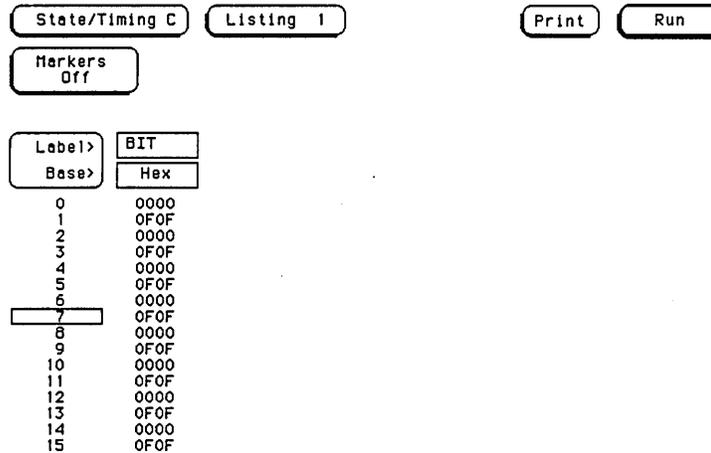

Figure 3-27. Listing Screen
6. Press RUN. The Listing screen will be displayed as in figure 3-27.